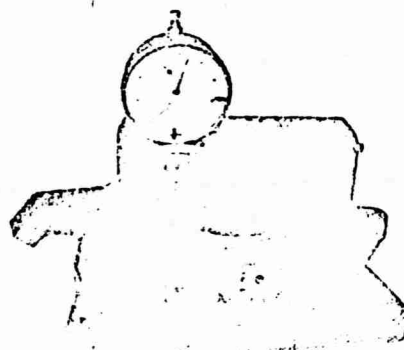

Fig. 59
4. Place measuring ring .11. into the flange, which will be mounted to the side on which the setting device was previously attached, and repeat the measuring procedure (Fig. 59).